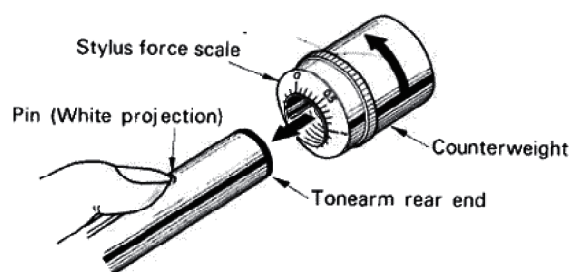
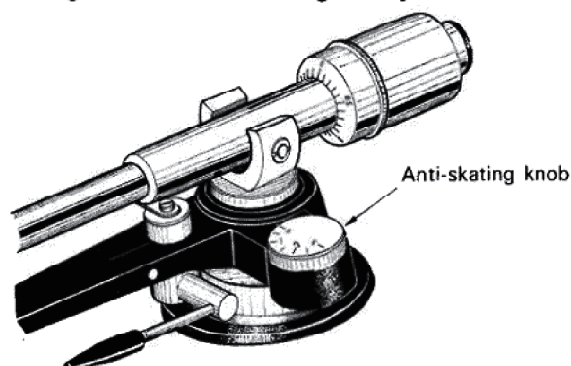

Fig. 3 Attaching the counterweight
Fig. 10 Set the anti-skating knob to "0"
- 1) With the stylus force scale facing front as shown in Fig. 3, slide the counterweight from the rear end of the tonearm to the pin (white projection).
- 3) After the pin has been concealed, turn the counterweight in the arrow direction (Fig. 3) while lightly pushing it so that it will be moved until the tonearm rear end is exposed as shown in Fig.10.
Adjust the counterweight to the correct stylus force as mentioned below. (Fig. 10, 11, 12)
- 2) Set the anti-skating knob to "0" on the scale. (Fig. 10)